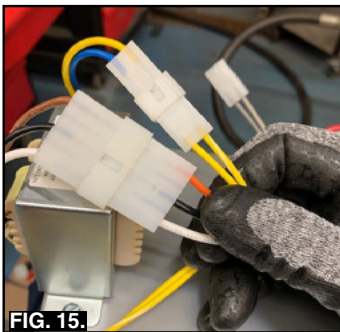

FIG. 15.
11. Plug in the transformer. (Fig. 15).